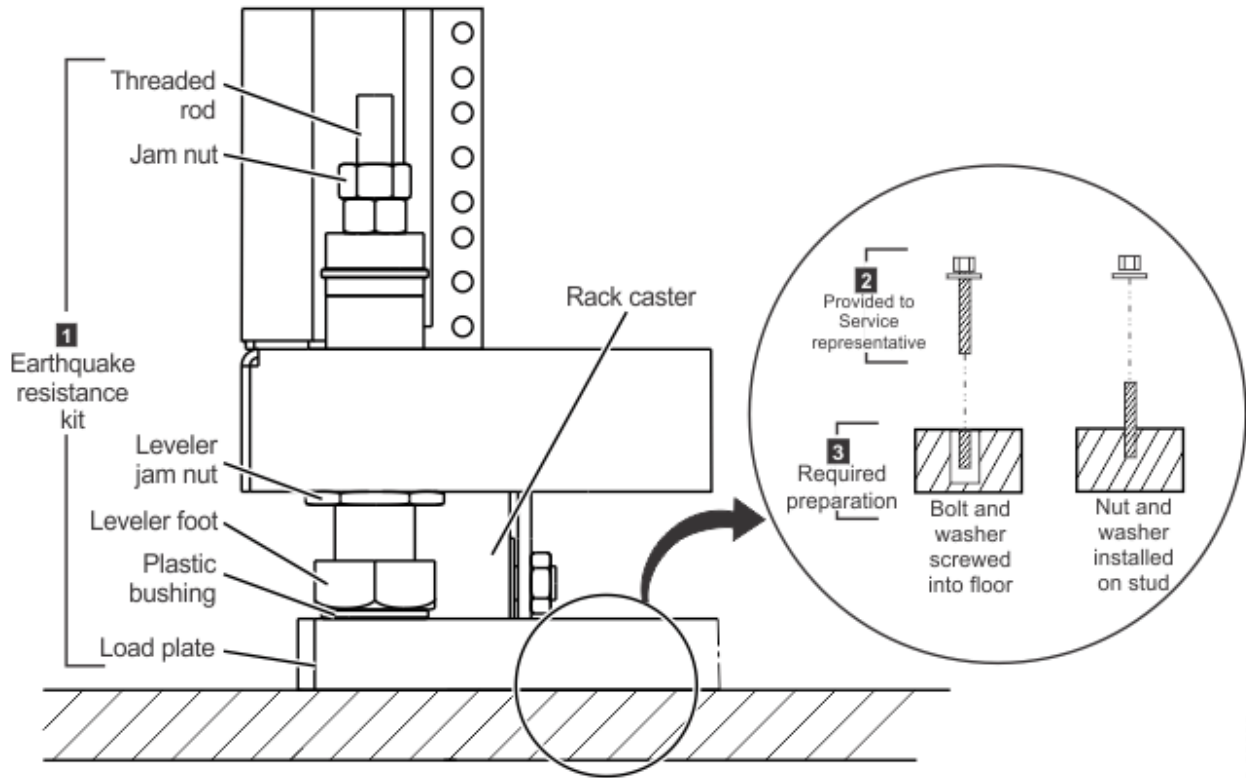

Figure 24. Earthquake resistance kit installed on a nonraised floor.
Figure 24 on page 141 provides an illustration of the earthquake resistance kit (1) after the IBM service representative installs it on the nonraised floor.
Before the IBM service representative installs the kit, you must prepare the area that is shown as **2** in Figure 24 on page 141. This figure shows two of the most common fasteners that you can use.
The following examples provide descriptions of nonraised floor fastener sets. Figure 24 on page 141 illustrates the fastener sets.
3. When the IBM service representative arrives to install the earthquake resistance kit, provide the other fastener parts (2) in Figure 24 on page 141 so that the representative can use these parts secure the load plates onto the floor.